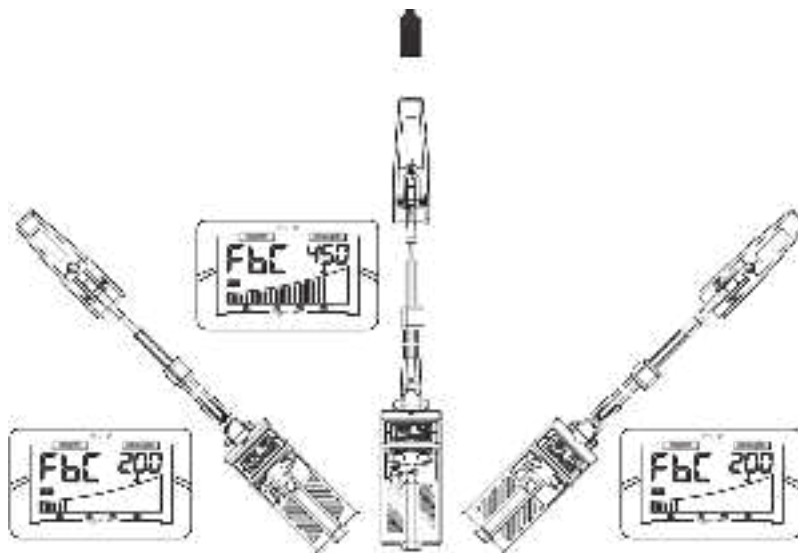

Figure 18
- g. **Let the receiver "know" the transmitter.** Put the battery on the transmitter and put it on the ground. Turn on the receiver, walk around the transmitter, and turn the direction of the main antenna. Increase the gain; you should receive a 512Hz signal. The sound of the speaker will change, the strength signal bar and the digital strength signal will start to indicate a signal. In order to determine whether the received signal is an interference signal, you can remove the transmitter's battery. If the signal on the receiver disappears, it means the signal is from the transmitter. If the signal does not disappear, it means that there is an interference signal nearby. Try to avoid the interference area. (See Figure 18)